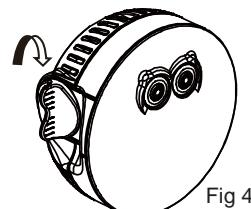

Fig 4
4. Securely tighten the battery housing cover (1) by hand only (see Fig 4).